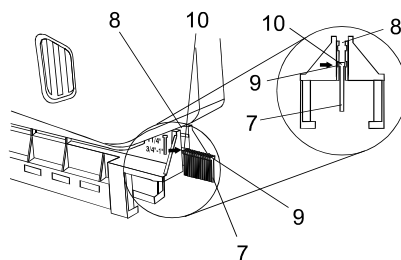

Fig. 6
6. Slide nail strip (7) into the centre slot of the magazine channel (8) with the "T" heads (9) inserted in the **LOWER** nail head slot (10) (see Fig. 6).